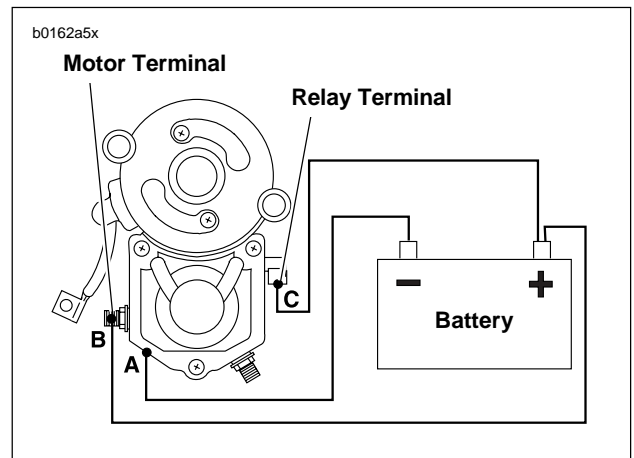

Figure 5-13. Hold-In Test
- See Figure 5-13. With test leads still connected in the manner specified in the previous **SOLENOID PULL-IN TEST**, disconnect solenoid motor terminal/battery negative test lead (B) at negative battery post only; reconnect loose end of this test lead to positive battery post instead.